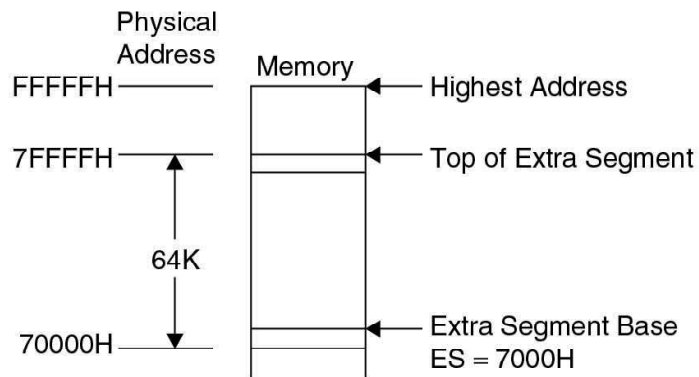

Fig. 3.46 Memory Segmentation Range for ES
The segments namely, Code Segment (CS), Data Segment (DS), Stack Segment (SS) and Extra Segment (ES) for a particular program can be contiguous, separate or in case of small programs, even overlapping. For example, the code segment is supposed to have 64kb and in case of small programs data segment may be within the code segment. The memory segmentation for CS, DS, SS and ES have been shown in Figures 3.46, 3.47, 3.48, and 3.49 respectively.